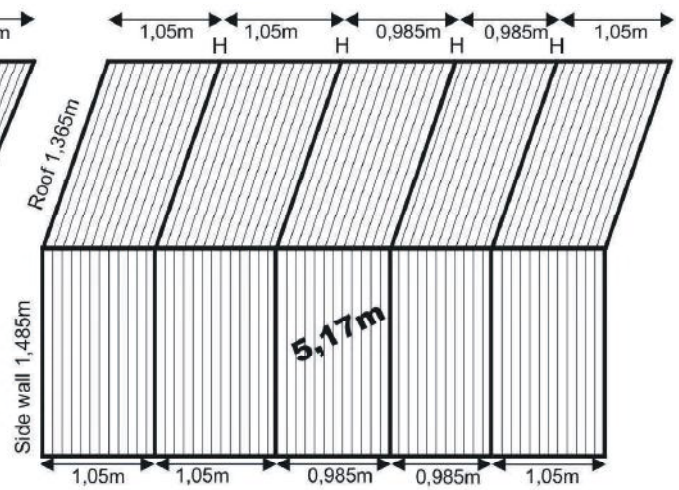

Fig. 21.4
5.17 m length: 1.05+1.05+0.985+0.985+1.05 m (Fig. 21.4)